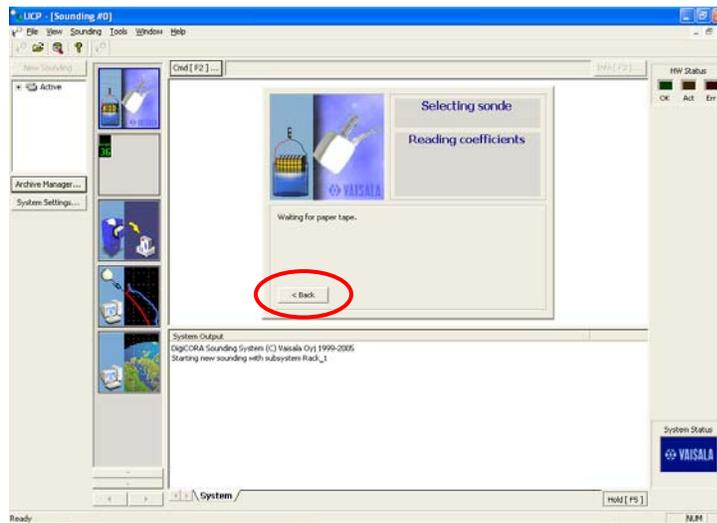

Figure 4
- 3) Click on “New Sounding.” The screen should look like the one shown in Figure 4. (If “New Sounding” is not available, open the “Active” file and close the last sounding file.)
- 4) If “Cable” selection option is not on screen, press “Back” (see Figure 4) to select media, otherwise go to next step.